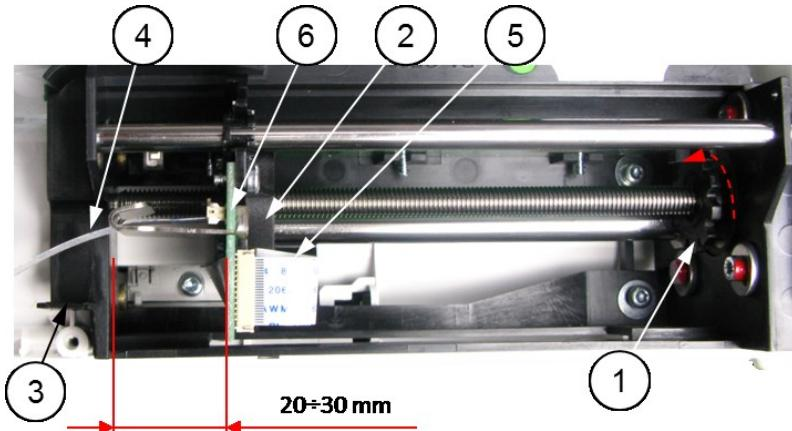

Fig. 51 Position of the Drive mechanism direct board for removal/installation
2. By rotating the **Tachometer disc (1)** move the **Guide (2)** to a distance **20÷30 mm** from the wall of the **Drive mechanism** as shown in Fig. 51.
3. Disconnect the **FFC ribbon 0,5x24x300 (4)** and **FFC ribbon 0,5x20x75 (5)** from their sockets in the **Drive mechanism direct board (6)** (Fig. 51).